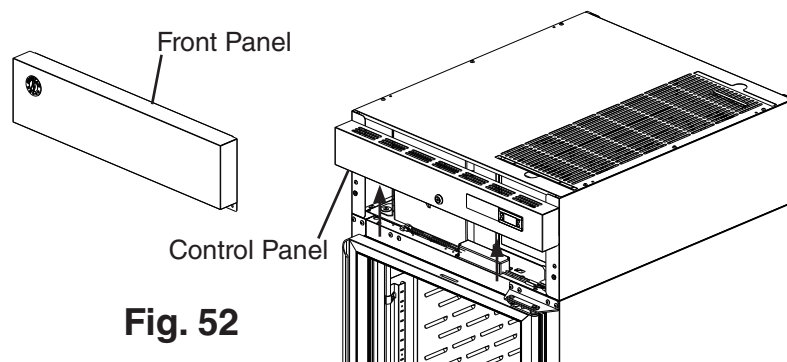

Fig. 52
- 2) Remove the front panel, then being careful not to pull the wires on the control module and door switch(es), remove the control panel. Secure the control panel so that it does not interfere with the hinge brackets and will not fall. See Fig. 52.